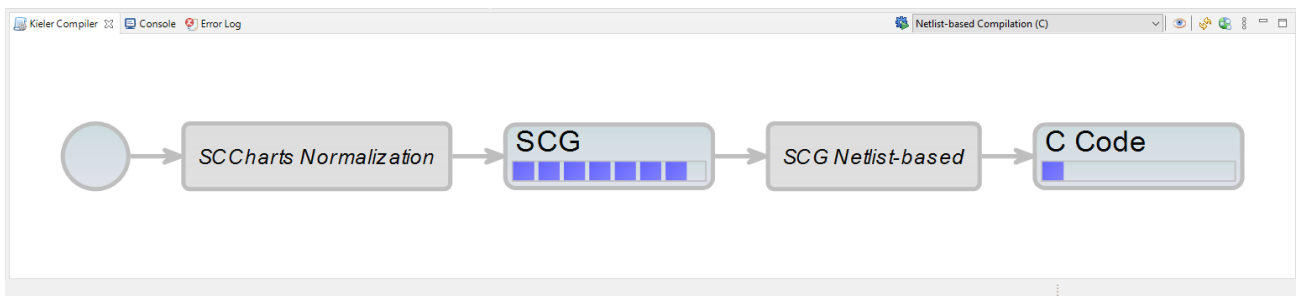

Figure 15 - KIELER Compiler Selection for C Code
There are multiple compiler pathways supported by SCCharts, for generating C Code, Java, etc. We are interested in C code generation so in the drop-down box at the top-right of this panel select “Netlist-based Compilation (C)” (it likely defaulted to “Identity Transformation System”) and invoke a compilation process by clicking the button to the left of this. You should now end up with something that looks like Figure 15.